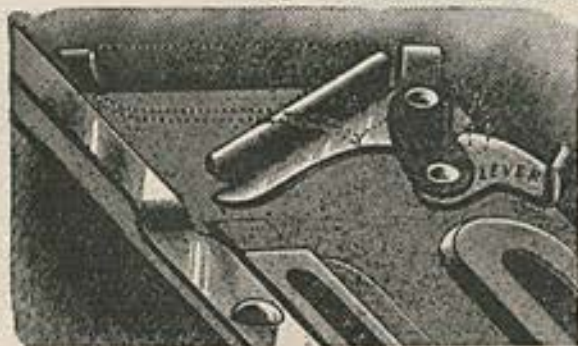

Fig. 2—Shows Guide Adjusted for Narrow Tucks.
**NARROW TUCKS.**—The Guide on Tucker, in box, is already adjusted for making tucks less than  $\frac{3}{8}$  inch wide. See Fig. 2.